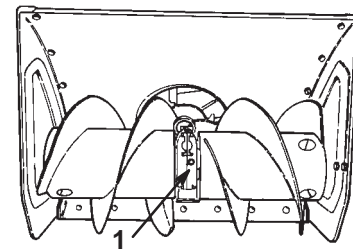

Figure 26
4. Clean the area around the pipe plug (Fig. 26).
5. Remove the pipe plug from the gearbox (Fig. 26).